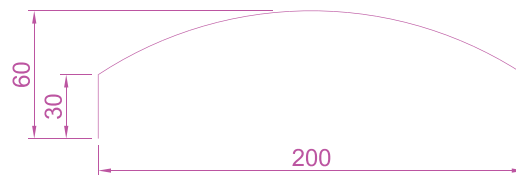

Fig. 17.27 Example – **Edgesurf** – pline outline
3. Construct the polyline to the sizes and shape as shown in Fig. 17.27.